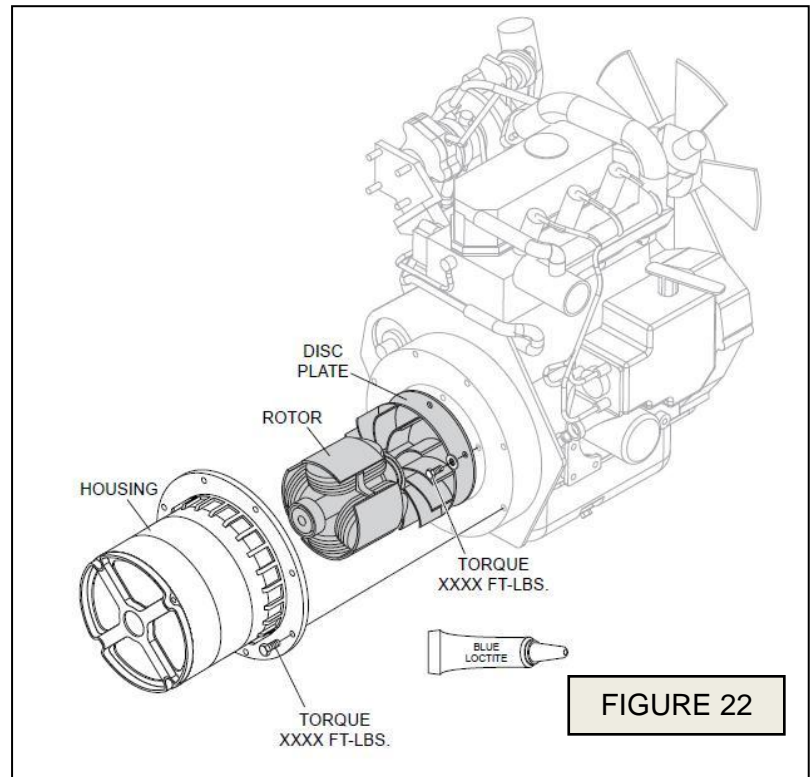

FIGURE 22
2. Attach generator disc plate and housing to engine flywheel. See FIGURE 22.